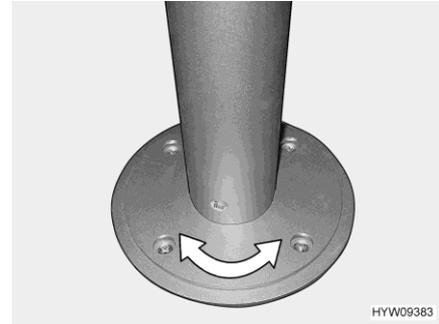

Fig. 81 Pillar table leg (rotatable)
- Rotate table top to the desired position. In order to do this, you need a little effort, because the table top rotates against the friction resistance on the pillar table leg (Fig. 81).